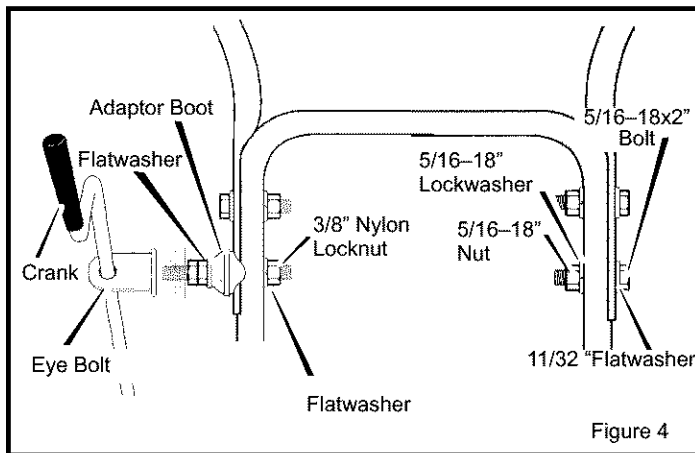

Figure 4
4. Install hardware supplied in the parts bag (bolt, flatwasher, lockwasher and hex nut) into right lower hole of upper handle (See Figure 4). Do not tighten until all bolts are in place.
6. Install the eye bolt through the lower hole on the left hand side of the handle. (See Figure 4).